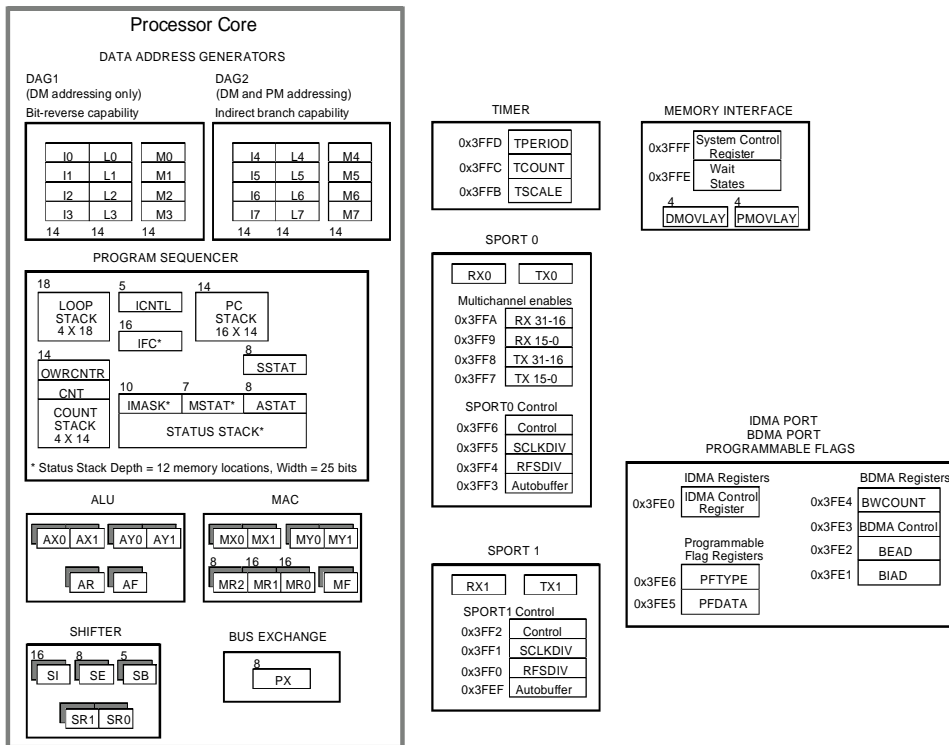

Figure 2-1. ADSP-218x DSP Registers
The ADSP-218x registers are shown in Figure 2-1. The registers are grouped by function: data address generators (DAGs), program sequencer, computational units (ALU, MAC, and shifter), bus exchange (PX), memory interface, timer, SPORTs, host interface, and DMA interface.
Registers in the computational units have secondary registers, shown in Figure 2-1 as second set of registers behind the first set. Secondary registers are useful for single-cycle context switches. The selection of these secondary registers is controlled by a bit in the MSTAT register; the bit is set and cleared by these instructions: